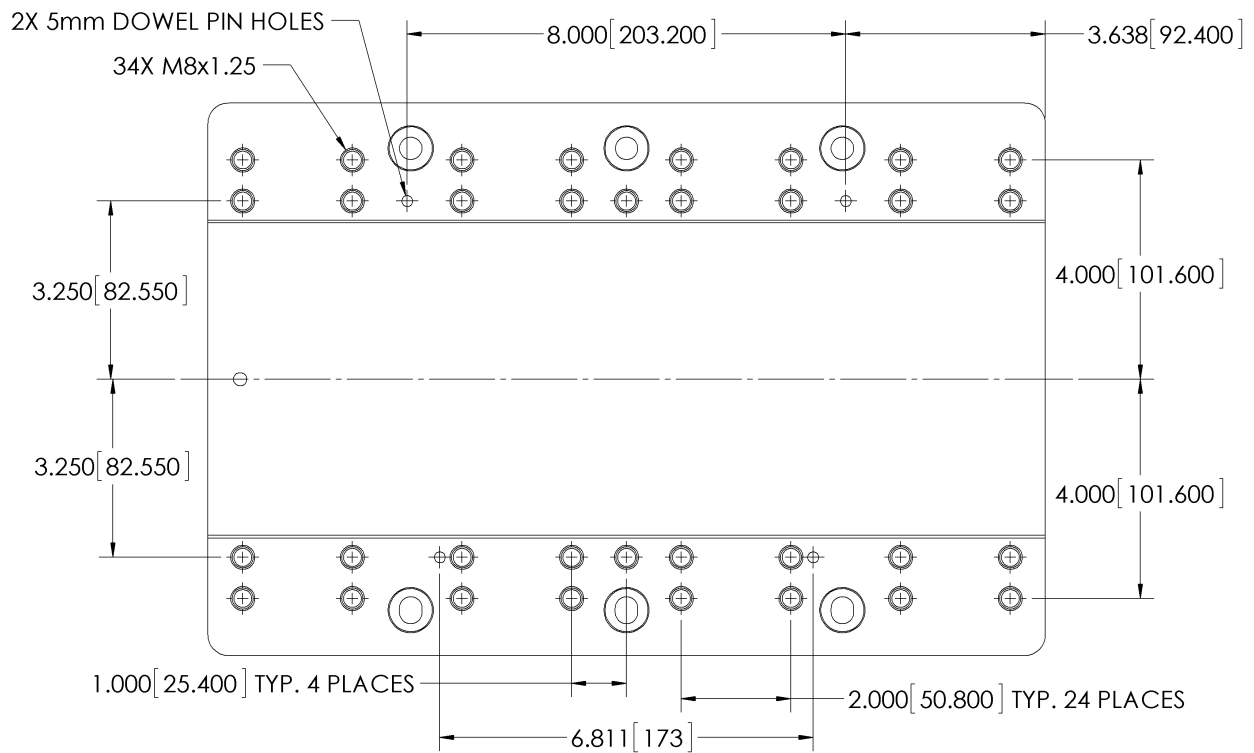

Figure 1. Carriage bolt hole pattern
The bolt pattern on the Carriage has been designed to facilitate motor installation in a number of configurations. The Carriage has (34) thirty four M8 x 1.25 mounting holes with a depth of 0.52 inch (13 mm) to provide secure attachment points. The mounting holes are spaced as shown in Figure 1. The Carriage also has (2) two 5mm dowel pin holes to facilitate alignment (See Figure 1 for location). These dowel pin holes are oversized to allow the pins to be glued into place using Loctite 609, or equivalent. **DO NOT press pins into the AFD Carriage, as this will damage the linear rails.**